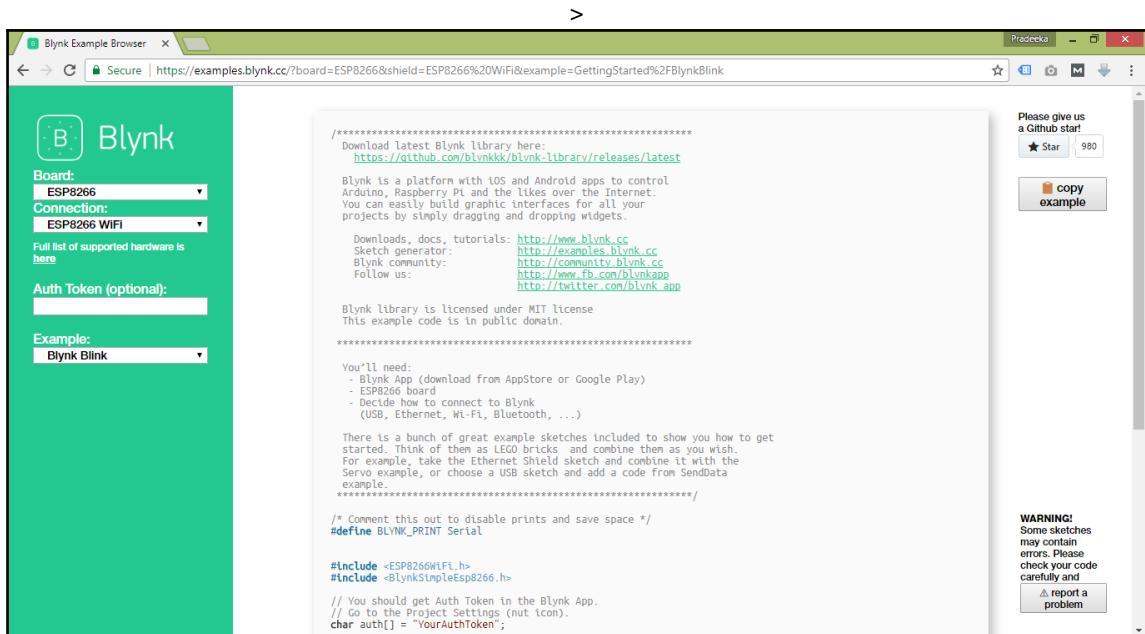

Figure 2.28: Blynk Sketch Code Builder home
1. Using your favorite web browser, open the Blynk Sketch Code Builder (*Figure 2.28*):